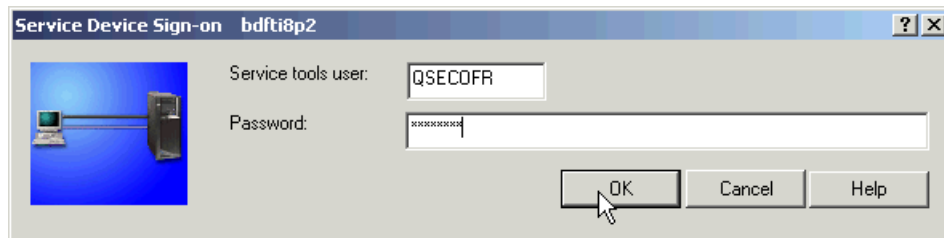

Figure B-9 SST Signon
4. You will be asked to sign on to SST as shown in Figure B-9. Enter your Service tools ID and password and press **OK**.